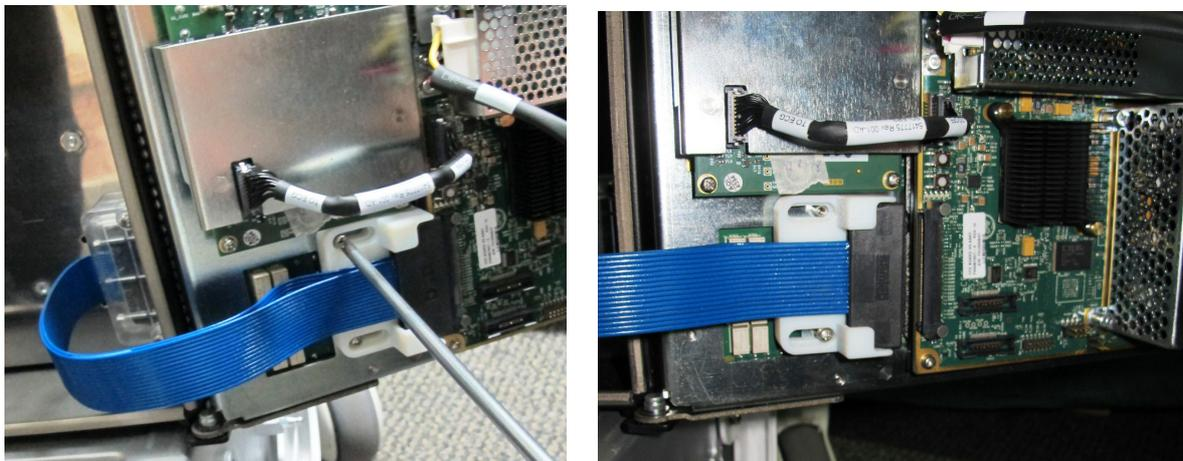

Figure 8-137 Releasing the Retaining Bracket on the CFE
- a.) Loosen the two screws securing the white cable holder bracket (plastic guide) - Figure 8-137.